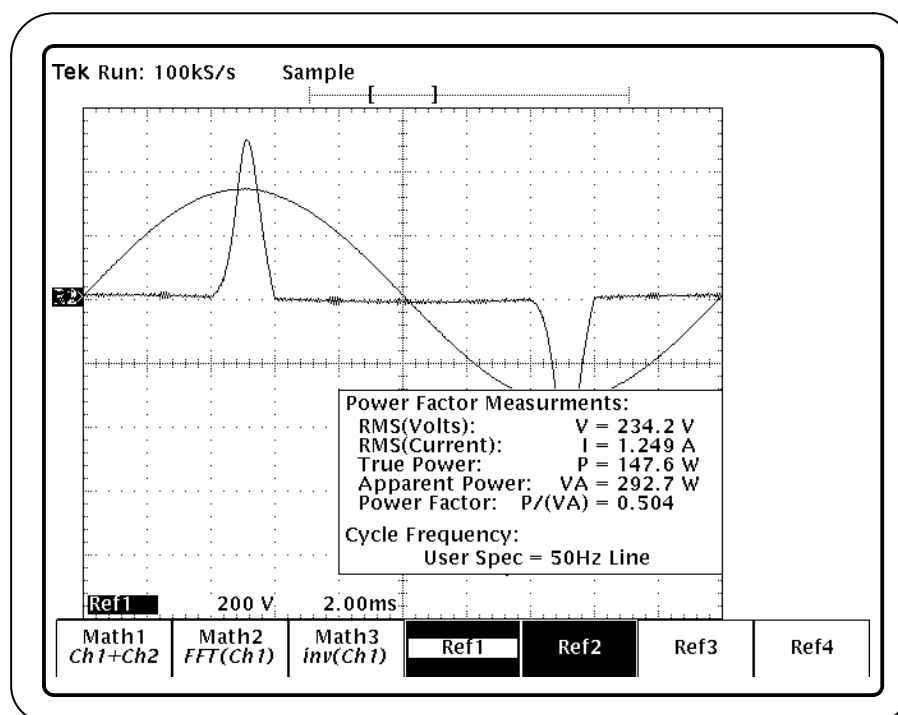

Figure 22: Results for the Power Factor lesson
5. Wait for the measurements to complete. Figure 22 shows the results.